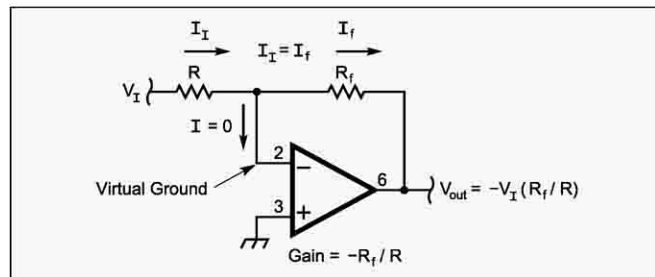

Figure 3—The inverting amplifier.
The high-impedance of the op-amp input can be used to create an inverting amplifier whose gain is also set by the ratio of two resistors. In Figure 3, R and R_f are again connected to the inverting input, but the input signal is connected to the free end of R and the non-inverting input is grounded. How does this work? Remember that the op-amp inputs are balanced, so the inverting input must also be at ground potential. It's not grounded, it's just at ground potential. This is called a "virtual ground."
- Build the amplifier as shown in Figure 3 and connect a 1 V_{p-p}, 1 kHz sine wave to the input. You should see a 3.9 V_{p-p} sine wave at the output, but inverted with respect to the input. Look at the inverting input to verify that it is at ground potential.